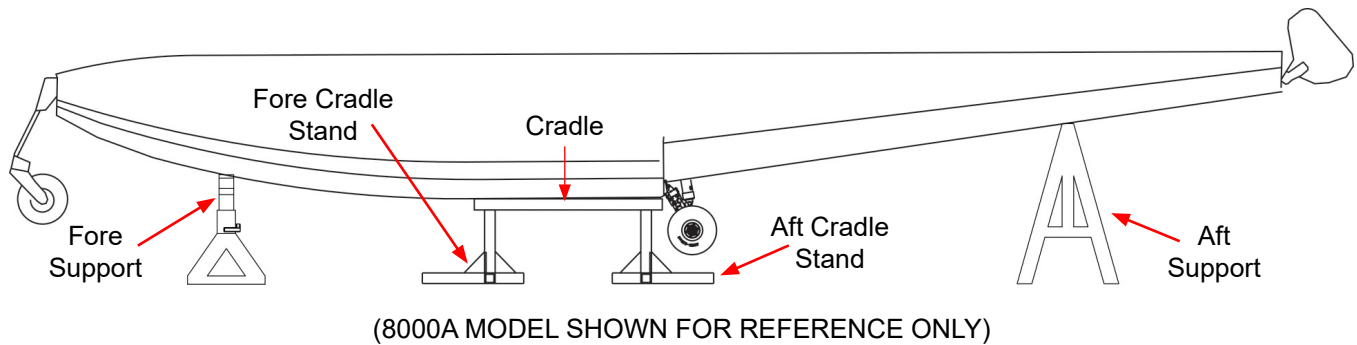

FIGURE 4-4 FLOAT SECURING LOCATIONS OVERVIEW
1. Raise aircraft high enough to place float cradle under floats as shown in Figure 4-4.
2. Lower aircraft onto float cradle as shown in Figure 4-4.
3. Place fore and aft supports as shown in Figure 4-3 and Figure 4-4.
4. Secure floats with fore and aft supports as shown in Figure 4-3 and Figure 4-4.
5. Remove all fore and aft supports as shown in Figure 4-3 and Figure 4-4.